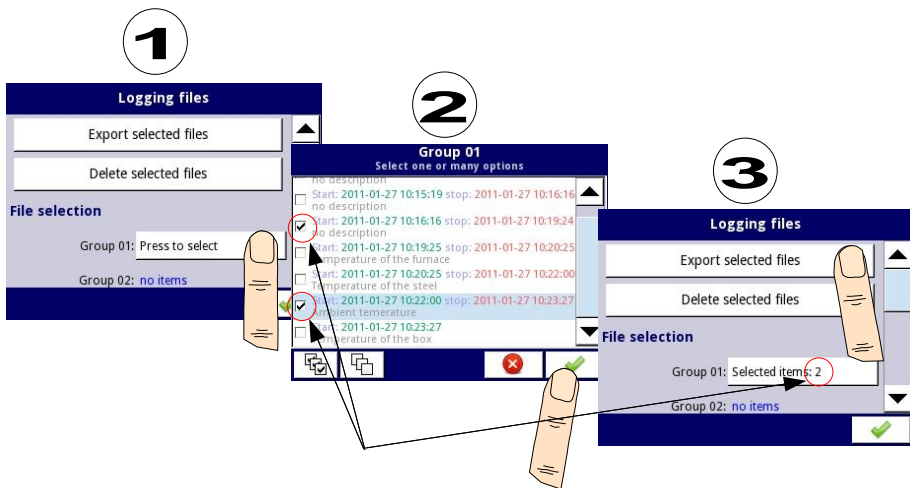

Fig. 7.21. Steps of exporting logged files to flash drive
An example of exporting 2 logged files from group 1 is shown in Fig. 7.21. First plug the flash drive into the device.
Deleting files from the device is similar export logging files, the difference is that instead of pressing the **Export selected files** button in (3) step (see Fig. 7.21), press the **Delete** button.